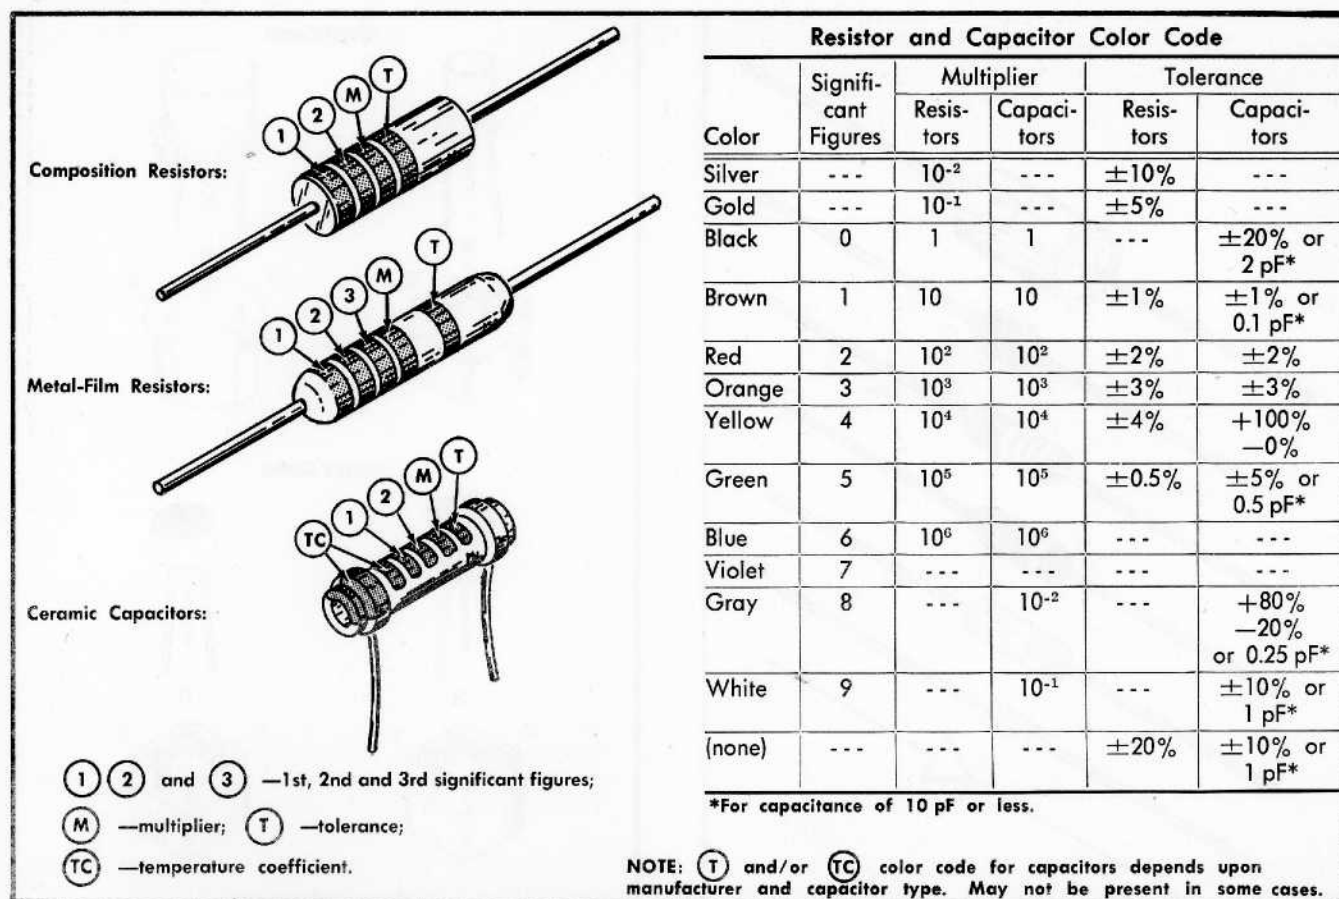

Fig. 4-2. Standard EIA color coding for resistors and capacitors.
Resistor Color Code. Standard carbon composition and wire-wound high wattage or precision resistors are used in this instrument. The resistance values on all composition resistors are color coded with the EIA standard color code. The EIA color code for resistors and capacitors is shown in Fig. 4-2.
Capacitor Marking. The capacitance value of a common disc capacitor or small electrolytic is marked in microfarads on the side of the component body. The white ceramic capacitors are color-coded in picofarads using a modified EIA code. (Fig. 4-2).
- f. Refer to Fig. 4-2 if in doubt about pin connector orientation.